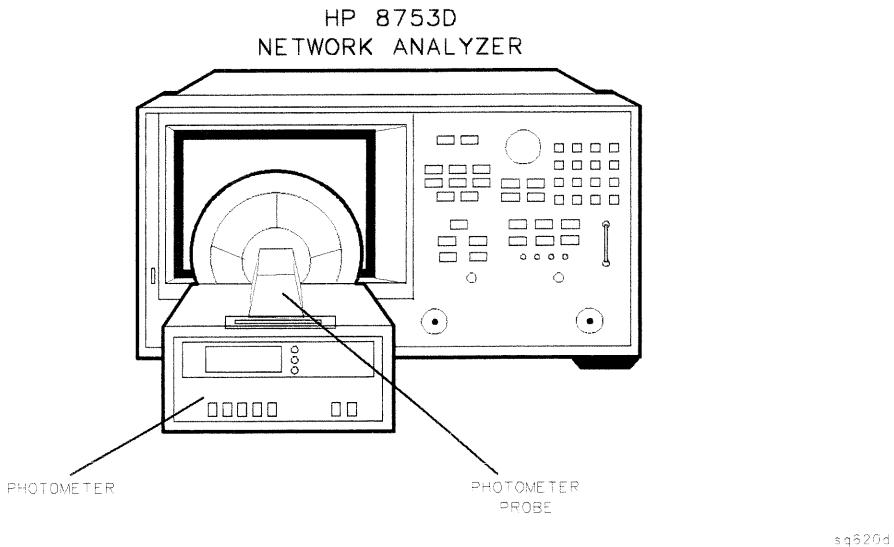

Figure 3-3. Maximum Intensity Adjustment Setup
7. Center the photometer on the analyzer display as shown in Figure 3-3.
10. Center the photometer on the analyzer display as shown in Figure 3-3.